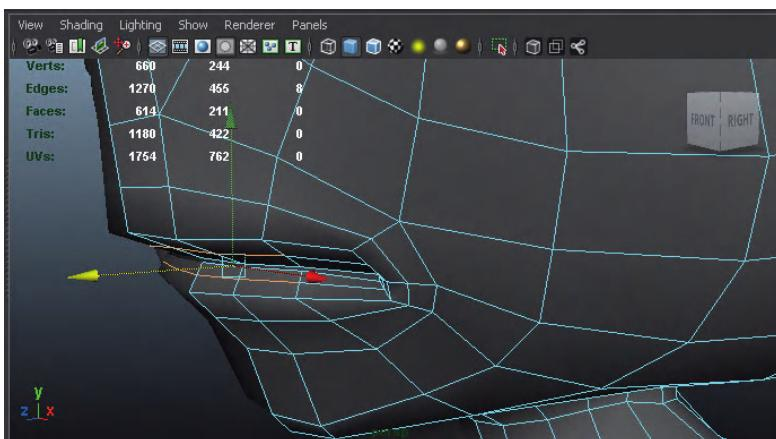

FIG 4.50 Rounding out the lips.
Step 68: Refine the lips. Using the Insert Edge Loop Tool, create a new loop of edges through the middle of the lips to create some more "meat" to the shape (Fig. 4.50). Tweak the new geometry into shape.